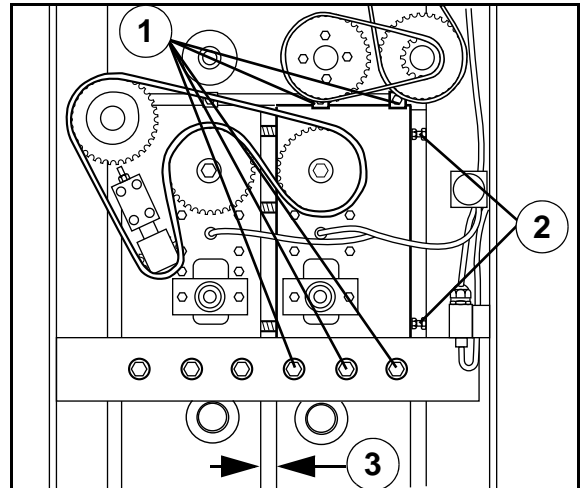

Fig. 30
- 2 Use the two adjusting screws to adjust the pressure between the sealing bars, see Fig. 30. Make sure that both screws are adjusted equally in order to keep the sealing bars parallel with equal sealing pressure during the sealing process.